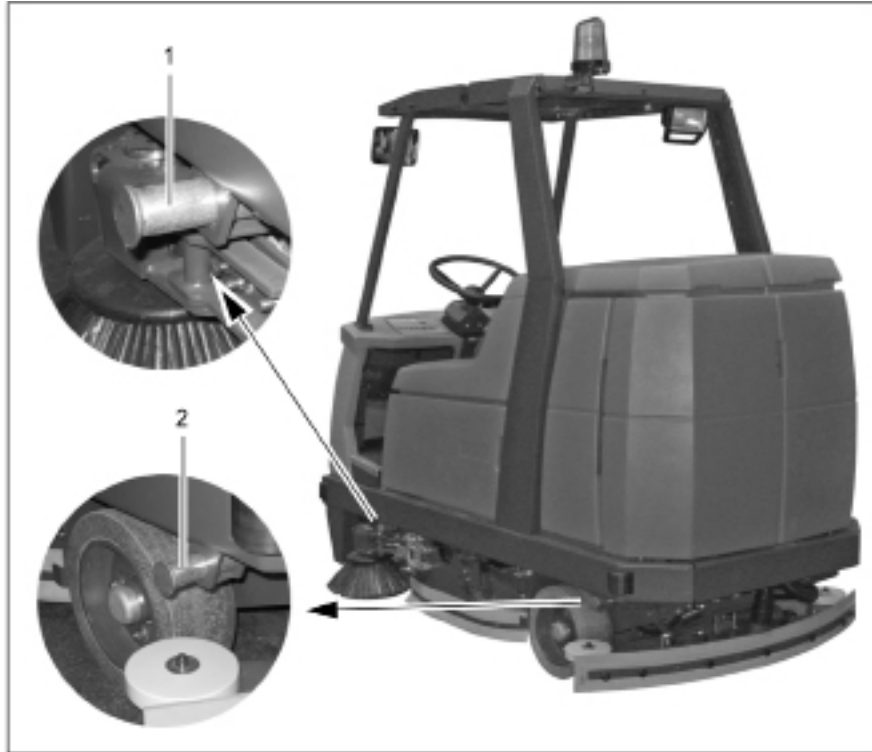

Fig 37
- The attachment points are bolts (Fig. 37/1+2) which can be pulled out from the sides of the frame. The bolts are locked in their projecting position by turning them.